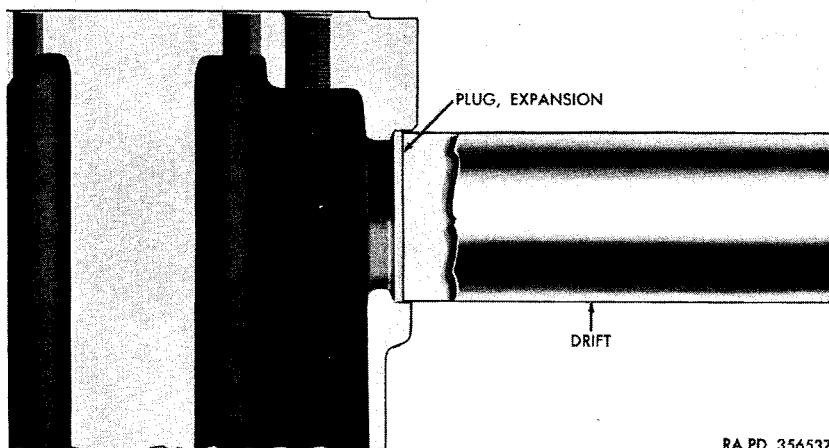

Figure 45. Installing expansion plug.
- (5) *Honing cylinder bores.* To remove light scoring, scuffing, or scratches from the cylinder walls, a cylinder hone can be used with good results. Usually one or two passes will clean up a cylinder bore and maintain required limits. After using a hone, make sure that all trace of abrasive is cleaned from the engine.
- (6) *Install expansion plugs* (fig. 45). Before installing a new expansion plug, clean the plug seat and remove any sharp edges or irregularities from the plug. Coat counterbore with plastic type gasket cement and install plug with curved face to the outside. Then, expand the plug in the counterbore with a blunt drift approximately the same diameter as the plug and a hammer, until it is firmly seated.